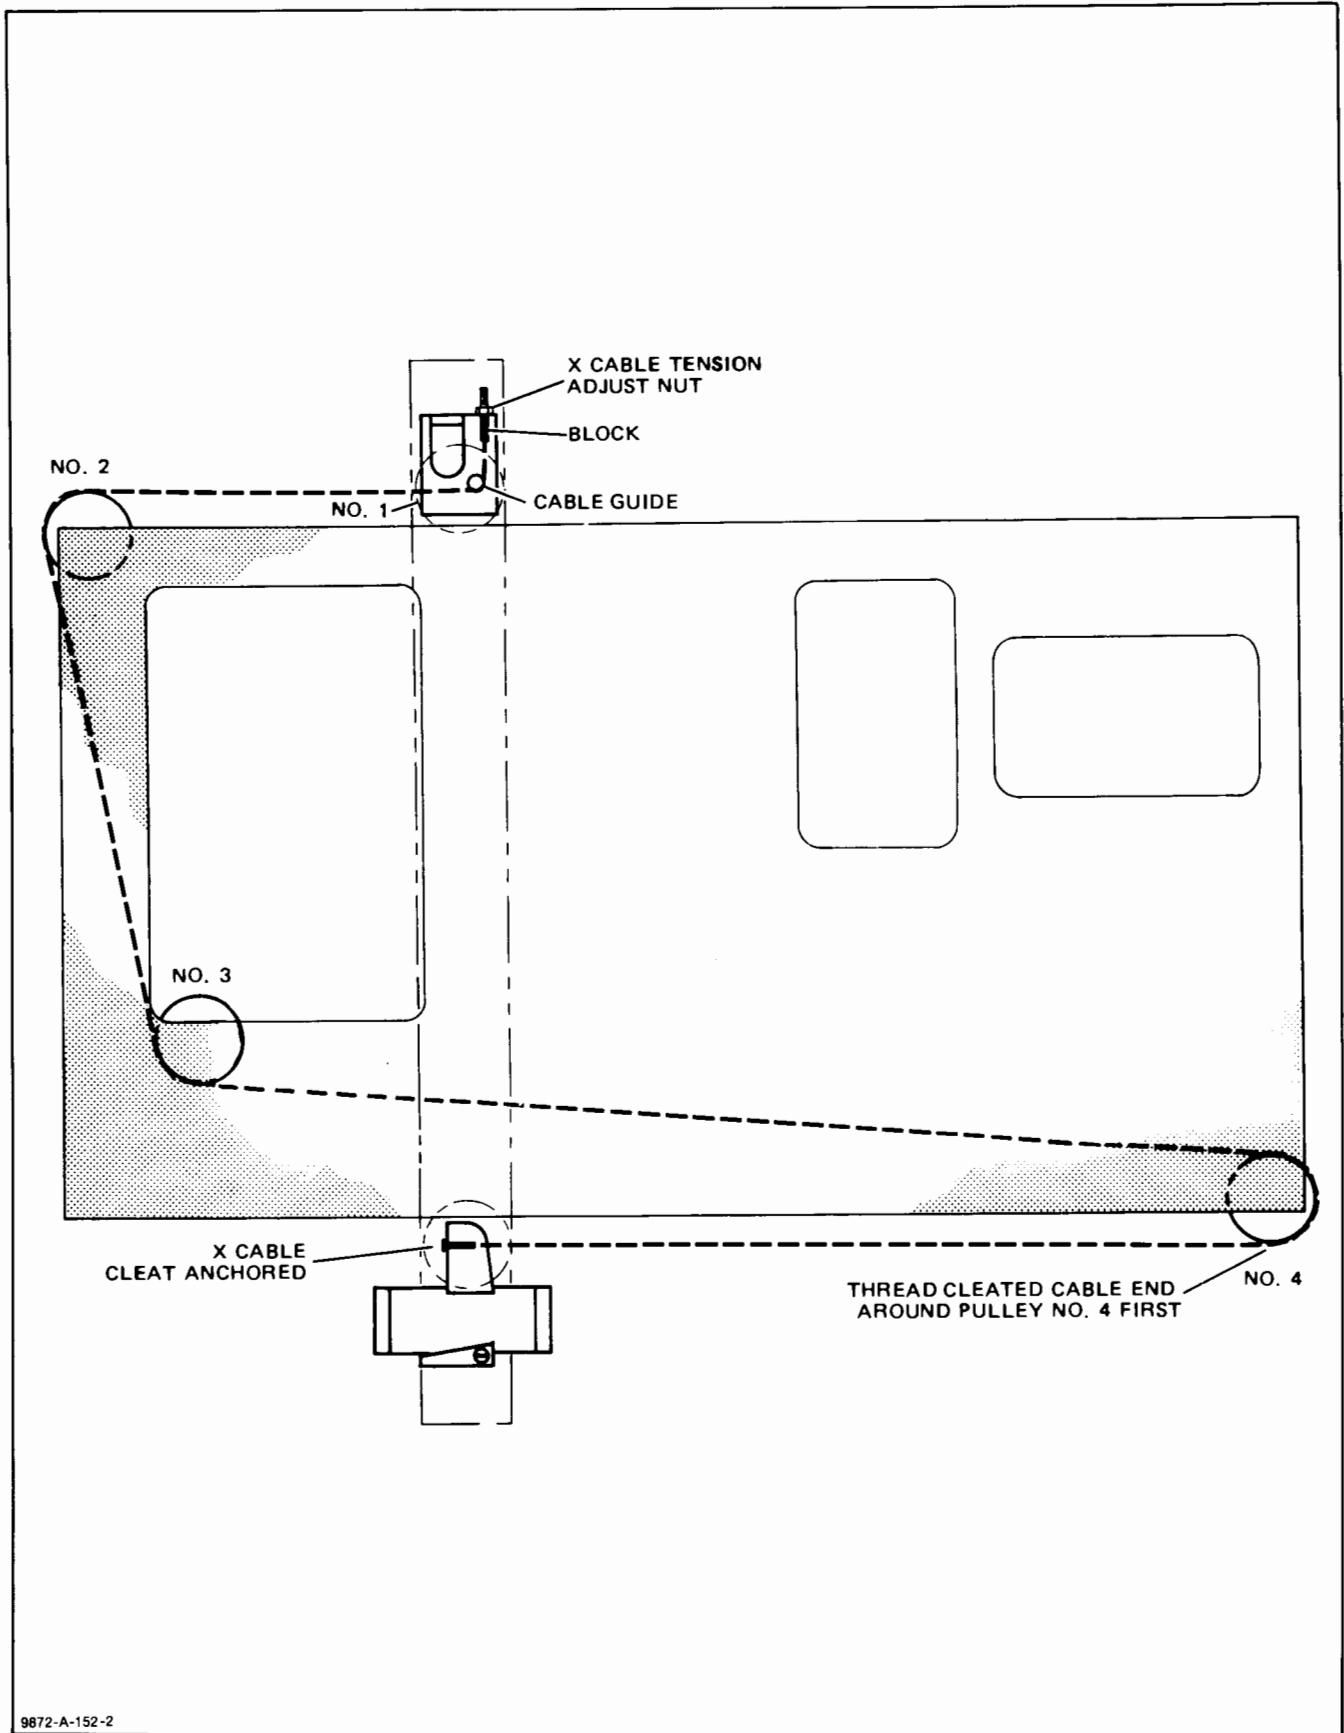

Figure 6-32. X Cable Stringing Diagram Viewed from Underside of Upper Deck
6-111. X-CABLE INSTALLATION. See Figure 6-32. To install the X-cable, proceed as follows:
- d. Replace pulley #4, making sure that the washer has been replaced under the pulley. The pulley will not rotate if the washer is omitted. See Figure 6-32.